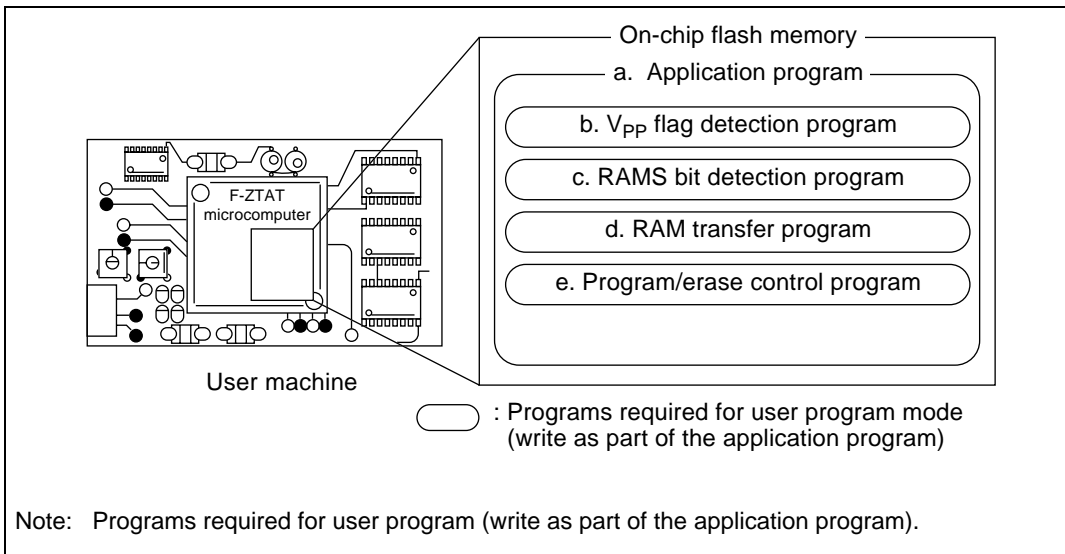
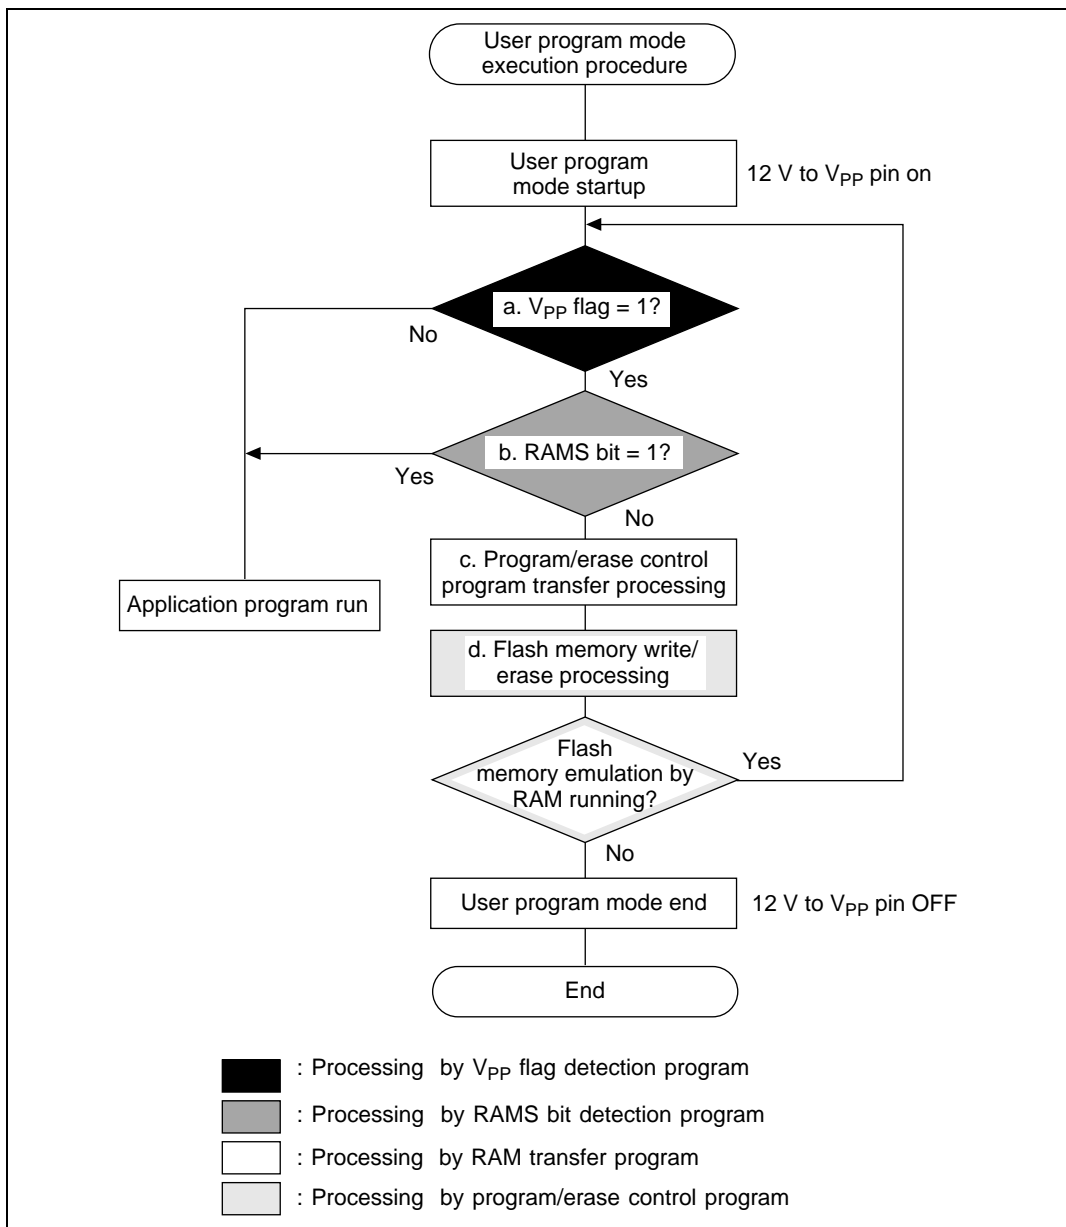

Figure 4.6 Programs Required for User Program Mode
Figure 4.7 User Program Mode Startup Procedure
The programs shown in figure 4.6 are needed for user program mode. First write these programs with the PROM writer in boot mode as part of the application program.
Processing in each of the programs listed in figure 4.6 is described in figure 4.7.
2. User program mode startup procedure: Figure 4.7 shows this procedure.